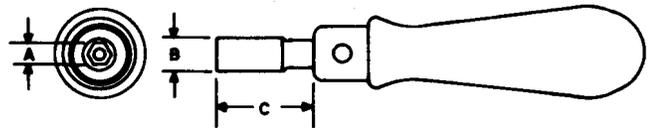

Fig. 2—46 and 47 Hex, Single-End Socket Wrenches
2.02 **46 and 47:** The 46 and 47 (Fig. 2) are hex, single-end socket wrenches.